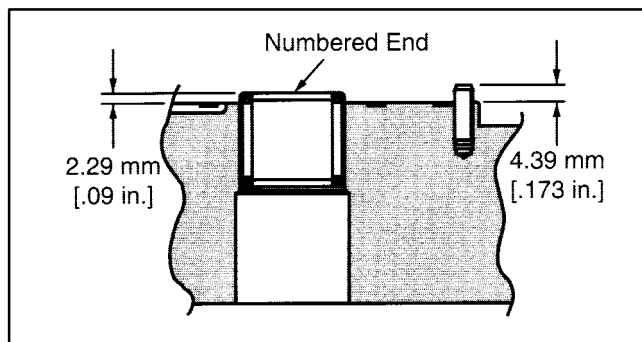

Figure 23
- Check the bearing (2) (press fit) in backplate (8). If needles remain in cage, move freely, and setting is at the dimension shown in Figure 23, removal not required.
- Check roll pin (22) in backplate (8). If tight and set to the dimension shown in Figure 23, removal not required.
5. Install new seal washer (48), washer (47), and jam nut (46) to servo piston bolt. Holding servo piston bolt with hex key wrench. Torque jam nut 17 to 18 Nm [150 to 160 lbf•in.]. Check the centering of servo piston assembly (41). Install new cover plate gasket (42) and cover plate (59) to left side of servo piston and retain with four each washers (44) and #10-24 cap screws (45). Torque cap screws 4.5 to 5.4 Nm [40 to 48 lbf•in.].
6. To assemble cradle sub-assembly (39), press dowel bushings (40) into cradle and install bushing (37) onto cradle retaining with button head cap screw (32). Torque button head cap screw 1.6 to 1.8 Nm [14 to 16 lbf•ft.].
7. Place cradle sub-assembly (39) into housing (58) making sure dowel bushings (40) and cradle (39) are completely seated into housing. Retain cradle sub-assembly (39) with two cap screws (38) after applying Loctite #277 (or equivalent) to the end of threads. Torque cap screws 34 to 38 Nm [25 to 28 lbf•ft.].
8. To install shaft (56), place exterior retaining ring (50), thrust race (51), thrust bearing (52), second thrust race (51), and second retaining ring (50) onto shaft (56). Position washer (53) and shaft seal (54) onto shaft (56).
9. Install shaft assembly into front of housing. Seat seal (54) into position with seal driver and retain with interior retaining ring (55).
10. Install servo piston follower (33) onto camplate dowel pin. Install camplate (36) carefully onto bushing (37) (coat bushing surface with hydraulic oil), aligning servo piston follower (33) with slot in servo piston assembly (41).
11. To install rotating kit assembly (35), leave housing (58) and shaft (56) in the horizontal position. Holding camplate (36) into position with screw driver through controller linkage passageway at the top of housing, place rotating kit assembly over shaft and into housing until pistons are in against camplate (36). Make sure all parts are in housing completely and properly positioned. Return the pump to the vise with open end of housing up, clamping housing on the outer portion of the flange.
12. Install gasket (34) onto housing.
13. If necessary, press new bearing (2) and roll pin (22) in backplate (8) to dimension shown in Figure 23. Bearing installed with the numbered end outward. Roll pin installed with split oriented away from bearing.
14. Install new o-ring (6) on relief valves (7). Install relief valve (7) in its original cavity in backplate (8) that it was removed. Torque 136 to 149 Nm [100 to 110 lbf•ft.]
15. Install new Quad-ring (3) on dump valve plug (5). Install dump valve plug (5) and retain with retaining ring (4) into backplate (8). Note: Make sure paddle of dump valve plug (5) is perpendicular to relief valve axis prior to installing or damage could result.
16. Apply a small amount of petroleum jelly to the steel side of valve plate (1) to hold in place for installation. Aligning the index pin, place the valve plate (1) in position onto the backplate (8), with steel side against backplate.
17. Install backplate assembly (8) onto housing assembly (58). Make sure ports are positioned correctly, valve plate (1) and gasket (34) stay in place.
18. Retain backplate (8) and adapter plate (12) with four cap screws (14 & 21). Torque 37 to 42 Nm [27 to 31 lbf•ft].
19. Install control housing gasket (62) onto housing (58). Install orifices (63 & 64) into control assembly (65) and retain in position with petroleum jelly. Position the feedback link at 90 degrees from control housing. Install manual servo control assembly (65) onto housing making sure feedback link entered small groove in servo piston assembly (41).
20. Retain control assembly with six cap screws (30). Torque 4.5 to 5.4 Nm [3.3 to 4.0 lbf•ft].
21. Install control arm (29) onto control assembly input arm. Retain with lock washer (66) and nut (28). Torque 5 to 8 Nm [4 to 6 lbf•ft].
22. Install new o-rings (60) on all plugs (61). Install plugs (61) into housing (58). Torque 3/4 in. plug 28 to 32 Nm [21 to 24 lbf•ft]. Torque 1-1/4 in. plug 54 to 61 Nm [40 to 45 lbf•ft].